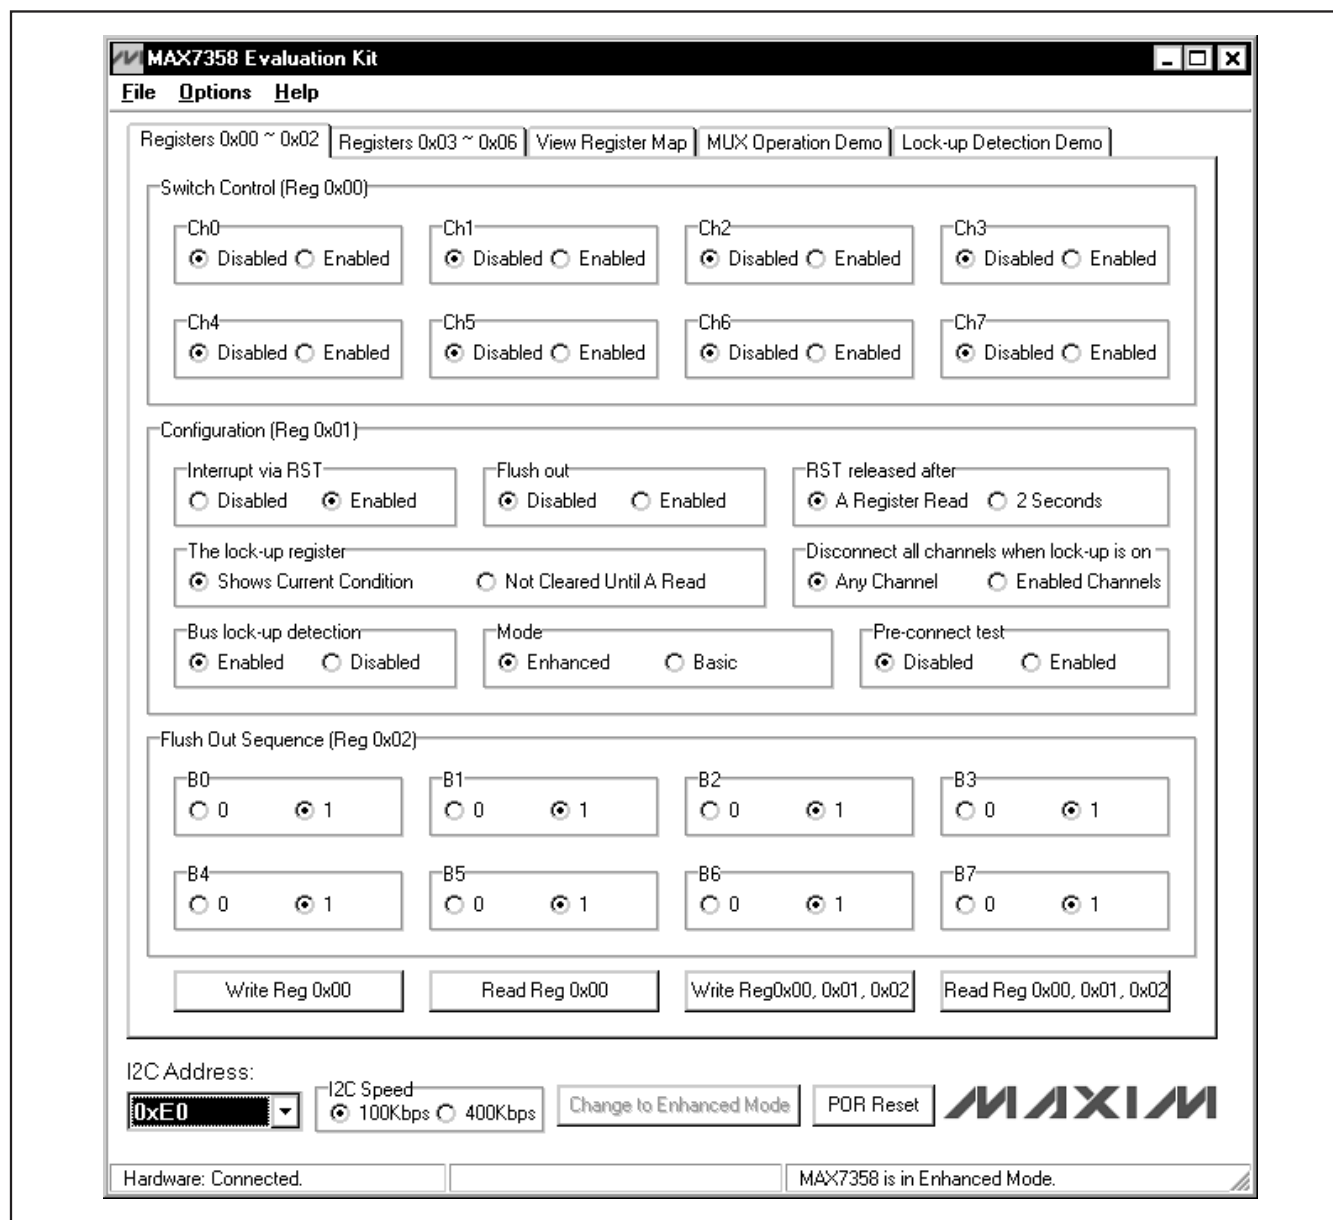

Figure 1. Software Main Window (Registers 0x00 ~ 0x02 Tab)
- 7) Start the MAX7358 EV kit software by opening its icon in the **Start | Programs** menu. The EV kit software main window appears, as shown in Figure 1.